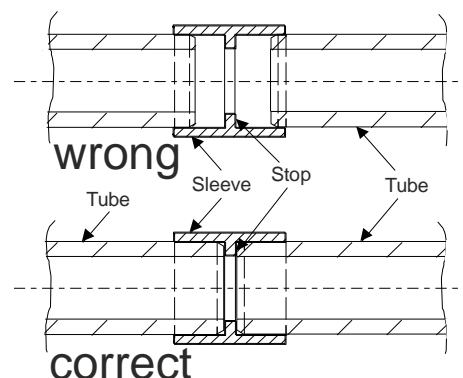

Fig. 37 Assembling the tubes
- The individual tube sections are connected using fittings. Depending on the tube material used, use either the adhesive process described in Sec. 5.3.2 and 5.3.3 or the pressing process described in Sec. 5.3.4. The tubes are pushed into the fittings as far as the stop, Fig. 37.